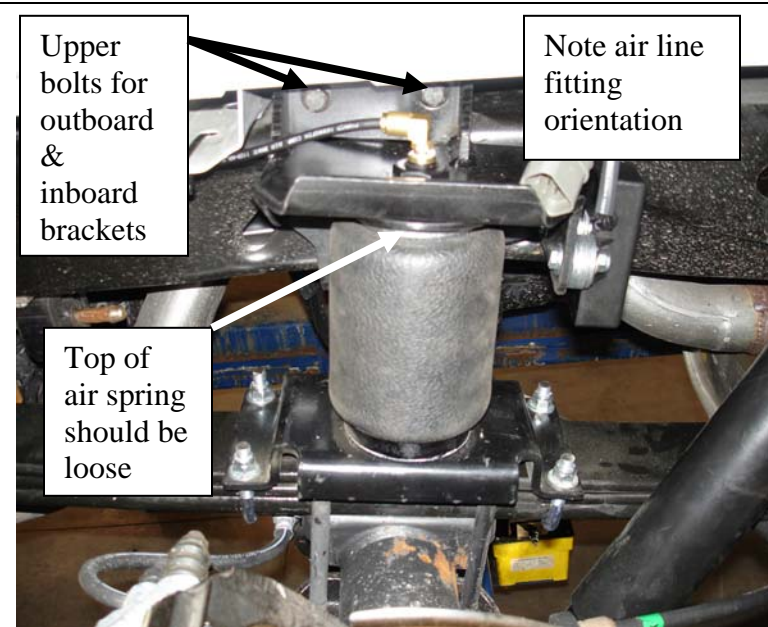

Figure 22
7. Install U-bolts for lower air spring bracket around leaf spring. (Figures 22, 23)
- Snug the nuts evenly over the U-bolts and **torque to 16 lb-ft** (Figure 22)